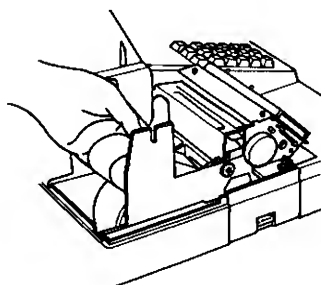

Fig. 4
5. Place the paper roll in the outer-side holder of the two roll holders (Fig. 4).